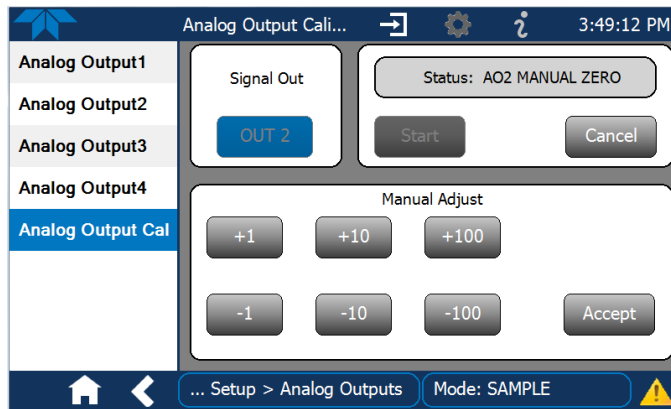
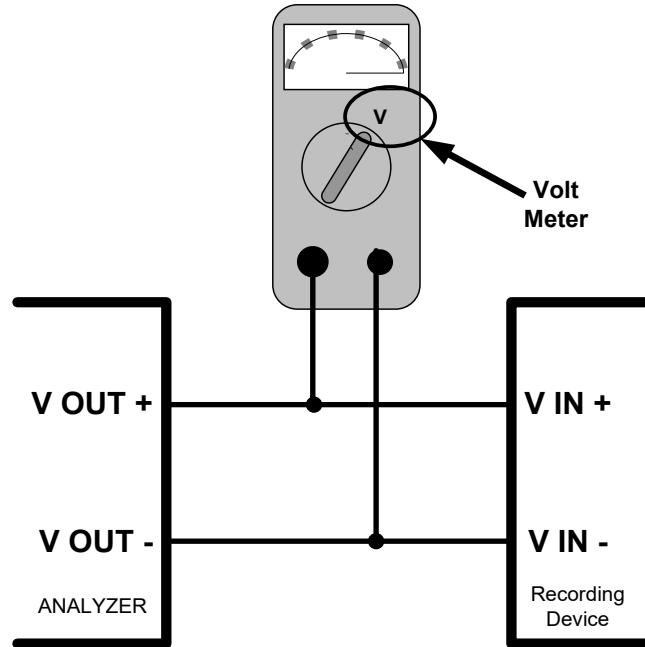

Figure 2-53. Analog Outputs Manual Calibration Screen (AOUT2 Example)
Figure 2-54. Setup for Checking / Calibrating DCV Analog Output Signal Levels
- MANUAL for individual calibration (Figure 2-53) of analog outputs where manual adjustments can be made (the only calibration type allowed when Current is selected for the Range). See Sections 2.5.8.1 and 2.5.8.2 .
It is possible to manually calibrate the voltages by using a voltmeter connected across the output terminals (Figure 2-54) and changing the output signal level in the Manual Adjust field of the Analog Outputs Calibration screen (Figure 2-53). Refer to Table 2-14 for voltage tolerances.